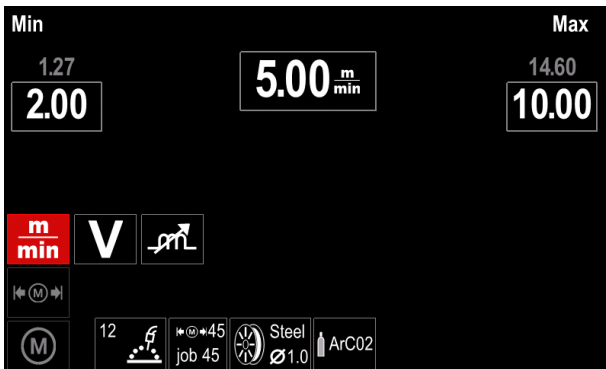

Figure 41
- Figure 41 shown the effect of parameter values change.